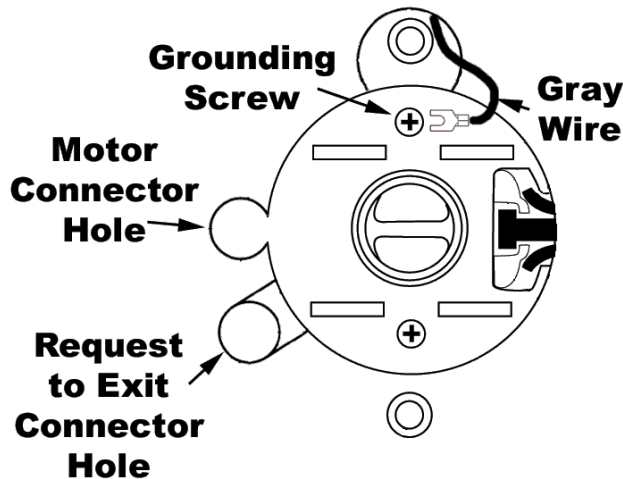

Figure 2-31 – Ground Wire Connection & Wire/Connector Holes
- 2.15.1 Connect the Gray Wire (spade lug end) from the Transceiver Base to the Grounding Screw on the Lock Housing (Figure 2-31).
- 2.15.4 Insert the mated Motor Connector into the Motor Connector Hole (Figure 2-31) on the located on the side of the 2-1/8" Lock Housing Hole. **Pack and dress the Motor Cable so that the Inside Rose will not pinch it.**
- 2.15.5 Insert the mated Request to Exit Connector into the Request to Exit Connector Hole (Figure 2-31) located just below the Motor Connector Hole. **Pack and dress the Request to Exit Cable so that the Inside Rose will not pinch it.**